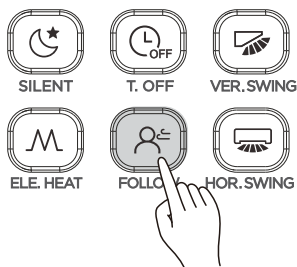

Figure 3.16
1) When the unit is in the Cool, Heat or Auto mode, press  to start the Follow Me function. The screen will display the  icon (see Figure 3.16);